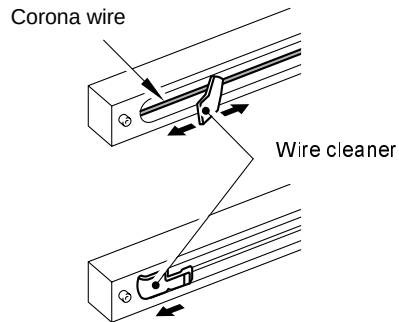

Fig.6-9
- *Make sure that the wire cleaner is returned to the home position as shown in Fig. 6-9 after cleaning the corona wire.*